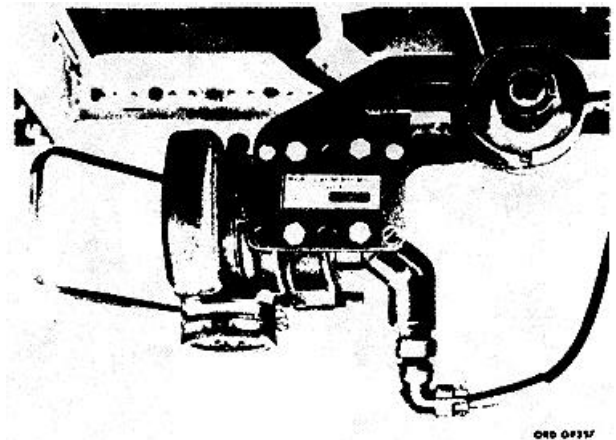

Figure 9. Pilot's sight (stowed position).
a. Pilot's Sight (fig. 9). This aiming device is used by the pilot to keep the helicopter aligned with the target while the missile is in flight. He views the target through a flat glass reflector plate. This sight doesn't magnify the target. Inside the sight body, and mounted above the reflector plate, is a lamp, a reticle, and a projection lens system which focuses an illuminated reticle pattern onto the surface of the reflector plate. Changing the voltage to the two-filament lamp changes the reticle pattern brightness.